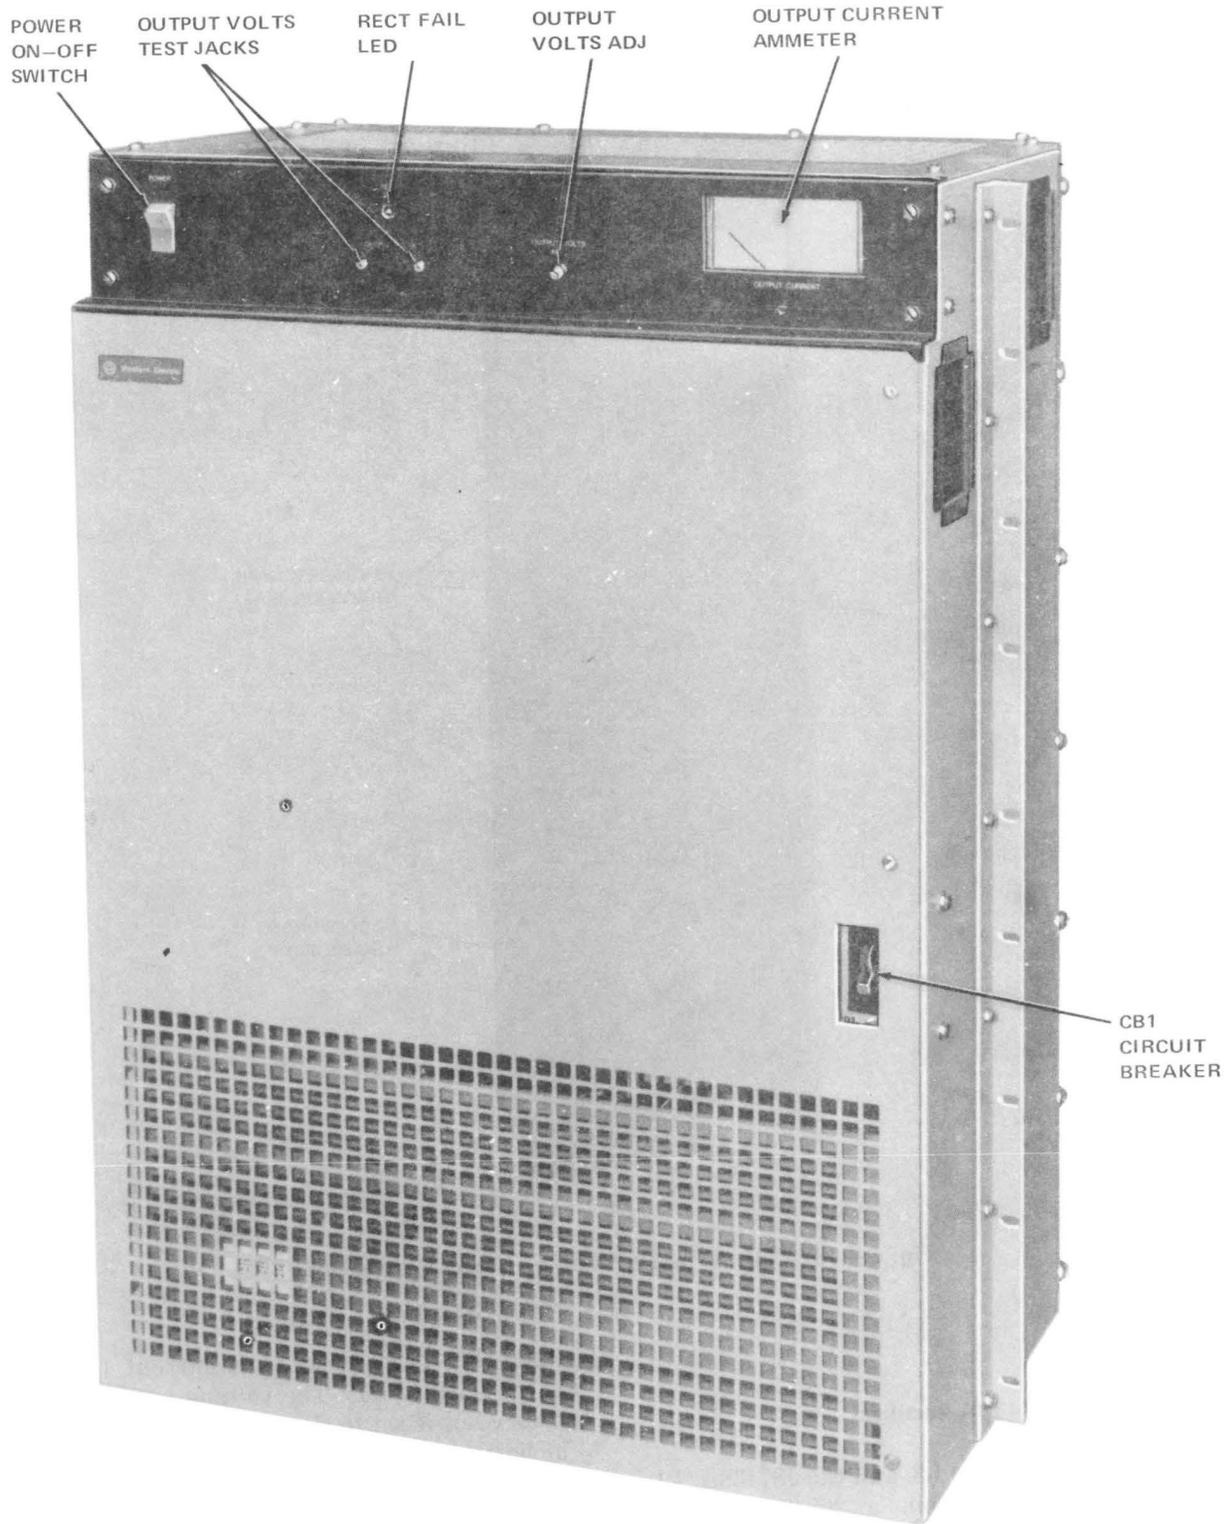
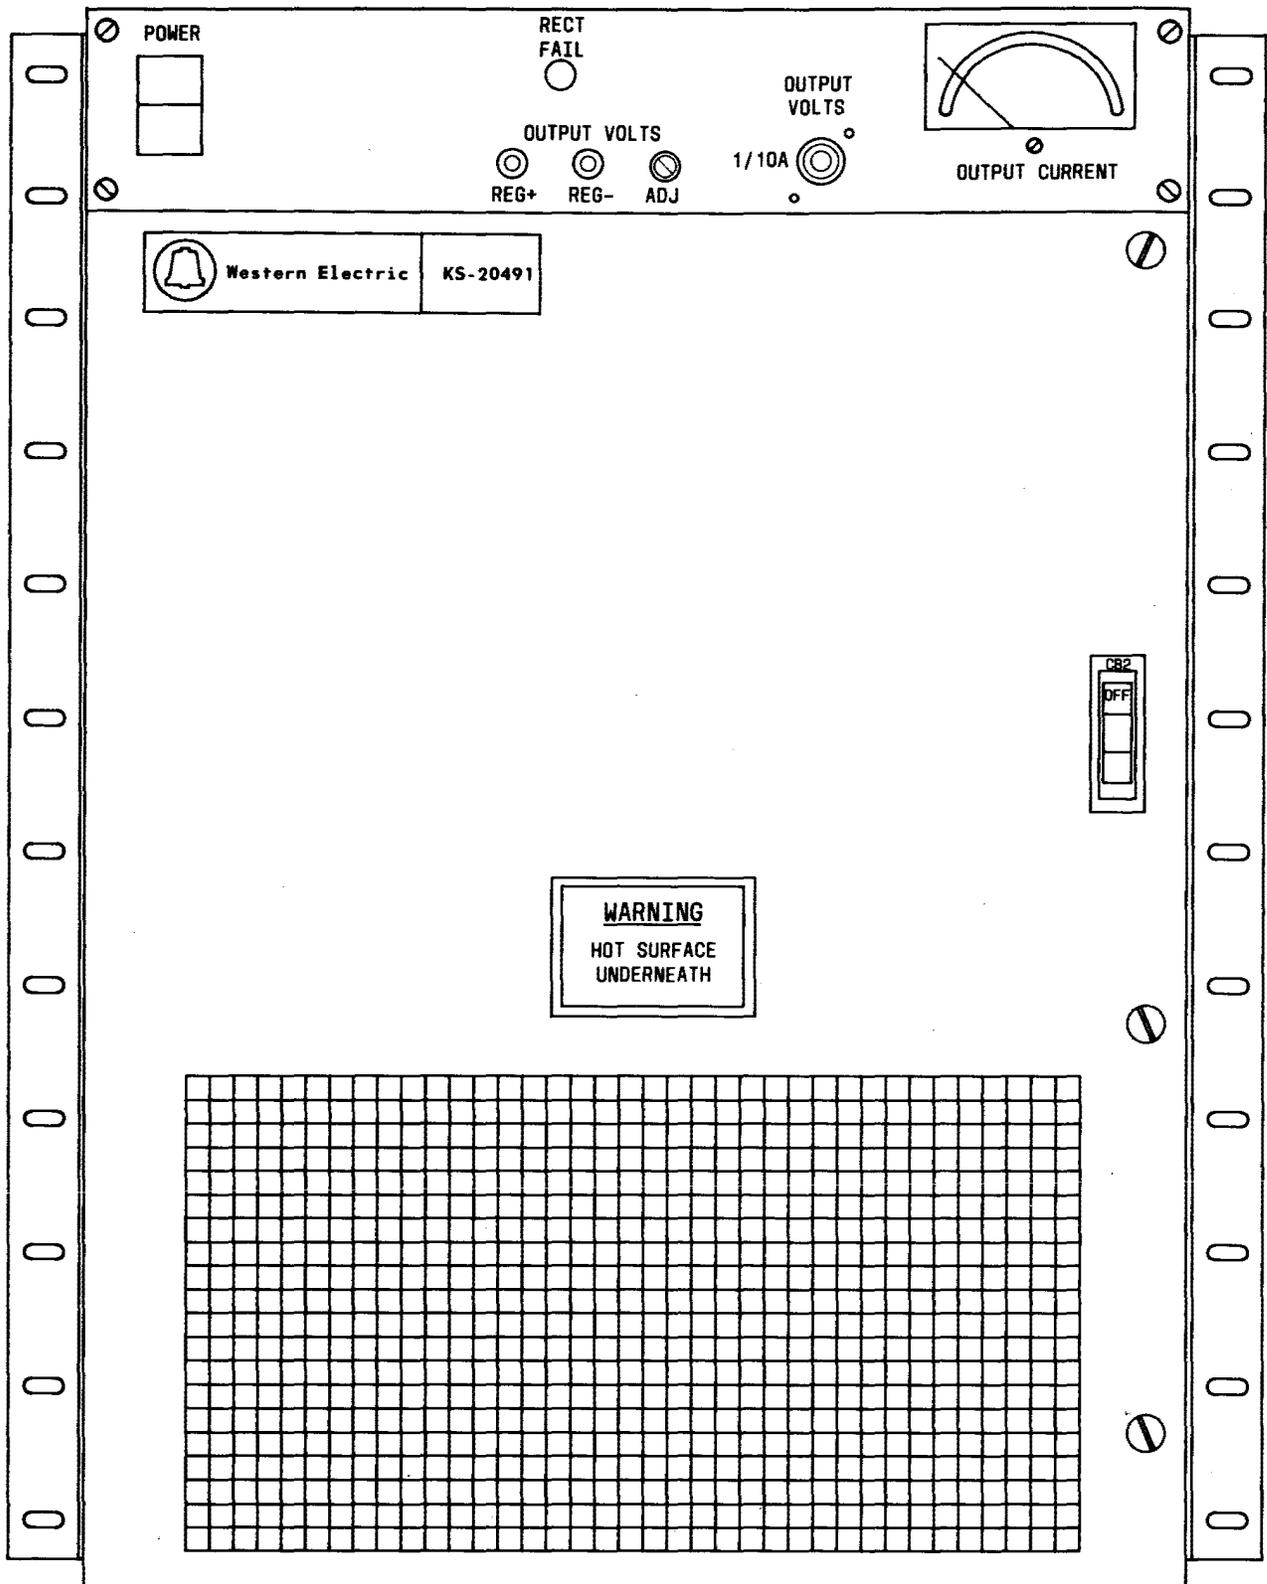

Fig. 7—KS-20491, L21, L22, L23, or L24 (Lorain) Rectifier
Fig. 8—KS-20491, L21, L22, L23, or L24 (ITT North) Rectifier
**2.07** The KS-20491 rectifier is available from two manufacturers; Lorain Products Corporation (Fig. 7) and ITT-North Electric Company (Fig. 8). There are significant differences in the internal design of each rectifier, but the equipment features and the output ratings are the same. The only models approved for use in the 150B plant are the versions based on SD-82462-02 (ITT-North) or SD-81997-02 (Lorain). The KS-20491, L105, circuit breaker kit (Option S) is also required when used in the plant.